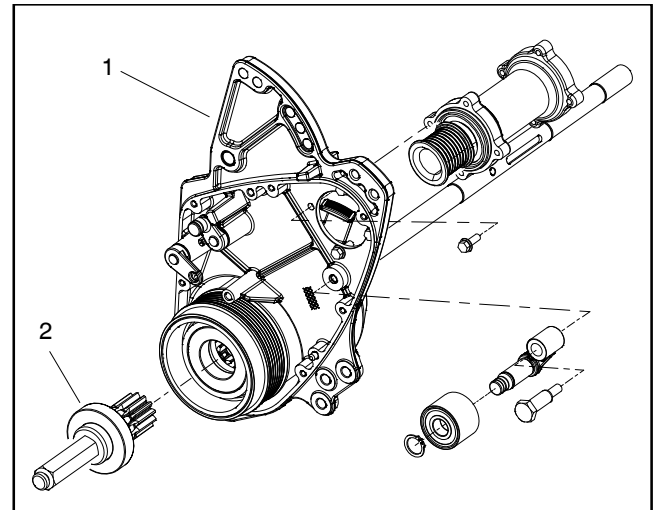

Figure 28
3. Slide spur gear assembly from differential assembly in drum drive housing (Fig. 28).